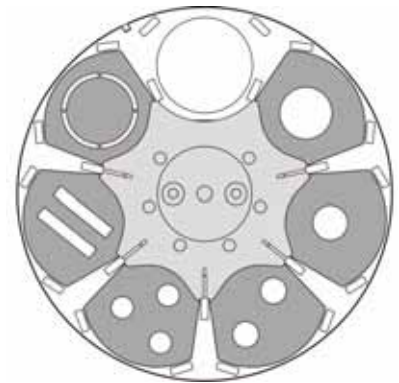

Figure 7
9. Insert gobos with the silicone beads facing the color wheel with reference to Figure 7 and to the illustration on the last page of this guide. Store the original color filters safely for possible future re-use.
10. We recommend that you install beam effect gobos in the color wheel in the positions seen from the lamp side shown in Figure 7 in all the fixtures you modify, so that all MAC 250 Beam fixtures will have identical behavior under DMX control. A copy of this illustration is included on the last page of this guide as a reference for lighting designers and lighting desk operators.